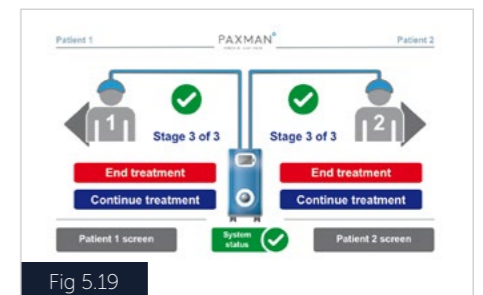

Fig 5.19
- Then press the **End Treatment** button and confirm to end treatment (Fig 5.19).